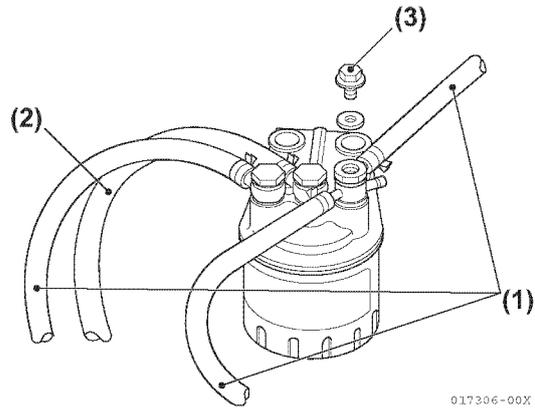
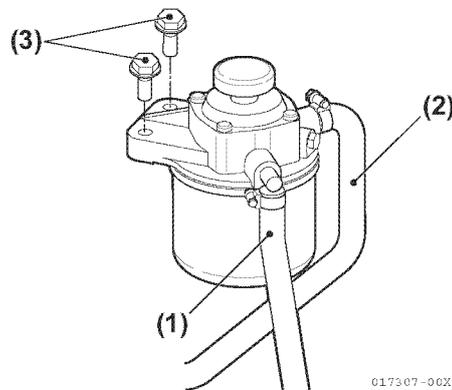

Figure 6-39
Figure 6-40
3. Loosen inlet (Figure 6-39, (1)), (Figure 6-40, (1)), (Figure 6-41, (1)) and outlet (Figure 6-39, (2)), (Figure 6-40, (2)), (Figure 6-41, (2)) hose clamps and remove hoses from filter.
4. Remove bolts (Figure 6-39, (3)), (Figure 6-40, (3)), (Figure 6-41, (3)).